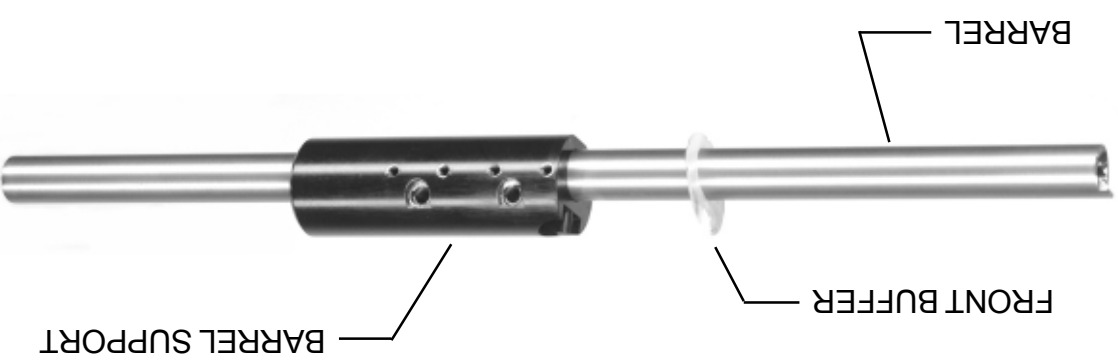
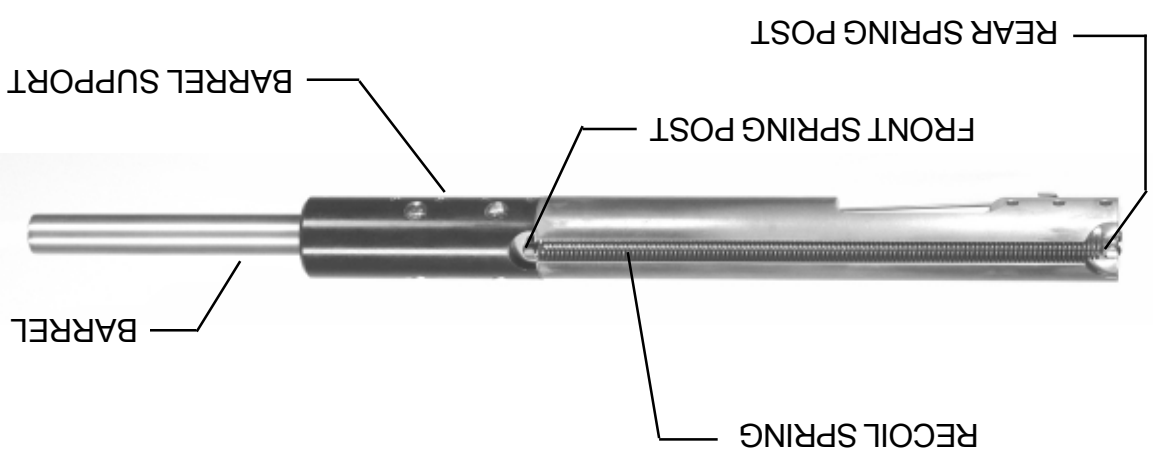

FIG. 7
FIG. 8
- Barrel subassembly (Fig.7)
- Bolt subassembly (Fig.8)
In this case the bolt will move the barrel out of the housing. Back to the normal way. As the bolt/barrel subassemblies are withdrawn from the main housing, the junction between the bolt and the barrel support will become visible (see FIG.8). Continue the withdrawal until about 3 inches of the bolt is showing. At this point change your grip such that the hand which was pulling on the barrel now grips the two assemblies right over or slightly to the rear of the junction and then continue to withdraw until everything clears the housing. Set down the housing while maintaining a solid grip on the bolt/barrel subassemblies. Don't lose control or the bolt and barrel subassemblies will part company, the recoil spring will suffer damage, and stuff will fly all over the place!
With the housing set down, both hands are free to deal with the bolt/barrel subassemblies. If you are right handed, the bolt/barrel subassemblies will be in your right hand with the barrel pointing to the right. Use your left hand to firmly grip the rear 3 inches of the bolt, trapping the recoil spring under the palm. Work the right hand position slowly toward the muzzle while maintaining the fingers wrapped around the barrel support (FIG.7). Maneuver the right hand such that the right thumb is pressing against the top of the recoil spring retaining post on the barrel support. Keep the right thumb firmly over the post so as to prevent the recoil spring from leaving the post. Now separate the bolt from the barrel by about 3 inches. Do this by pulling the assemblies apart along an axis parallel to the barrel. You will notice that the recoil spring has stretched. Carefully tilt the barrel, using your right thumb as the approximate pivot point, so that the portion of the barrel which is to the rear of the support moves out of the channel in the bolt. When the barrel just clears the bolt channel, begin to relax the recoil spring by allowing the subassemblies to come together slowly. You will learn how to maneuver the barrel to allow complete relaxation of the recoil spring at which point the spring loop can be safely slipped off the post in the barrel support and you can relax your thumb. (This entire procedure will have to be reversed in order to re-assemble.) The important point of the disassembly is to maintain control over the recoil spring. If the spring should slip off the post and 'snap' closed, the spring will be deformed and should not be used again.
At this point the three basic subassemblies should be separated. To review please refer first to FIG.7 which is the barrel sub-assembly. Note the front buffer and be certain to have this part in position as shown when re-assembly begins. The barrel and barrel support should not be separated. These parts are assembled using special fixtures and there should be no need to separate them. If the situation arises where the support or barrel are damaged, the subassembly should be sent intact back to the factory for remedy. Refer now to FIG.8 which shows the barrel subassembly and the bolt subassembly held together by the recoil spring. After these have been separated by the techniques outlined above, what is not shown in FIG.7 constitutes the bolt subassembly.